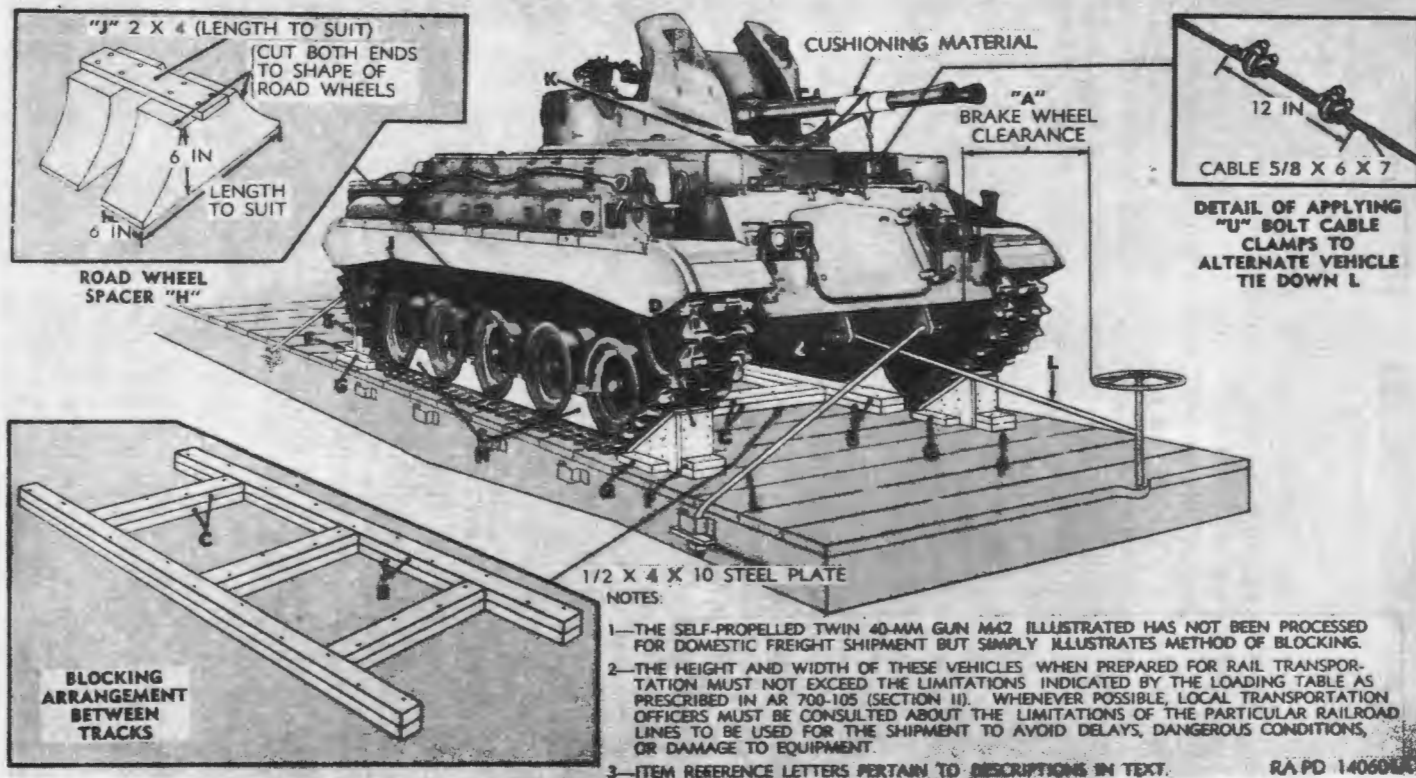

Figure 389. Method of blocking the twin 40-mm full tracked self-propelled gun M42 (T141) on railroad flatcars.
a. *General.* All blocking instructions specified herein are minimum and are in accordance with "Pamphlet No. MD-7, Rules Governing the Loading of Department of Defense Materiel on Open Top Cars" of the Association of American Railroads. Additional blocking may be added, as required, at the discretion of the officer in charge. Double-headed nails may be used, if available, except in lower piece of two-piece cleats. All items reference letters given in *b* through *k* below refer to details in location shown in figure 389.
h. *Road Wheel Spacers H (16 Required) and Spacer Cleats J (2 x 4 in., Length to Suit, Eight Required)*. Cut road wheel spacers H to conform with radius of road wheels. Locate spacers on tracks between wheels as shown in figure 389. Locate wedges under blocks to assure a snug fit, if necessary. Nail a 2 x 4, length to suit, cleat J across top of blocks to prevent them from sliding out of position.